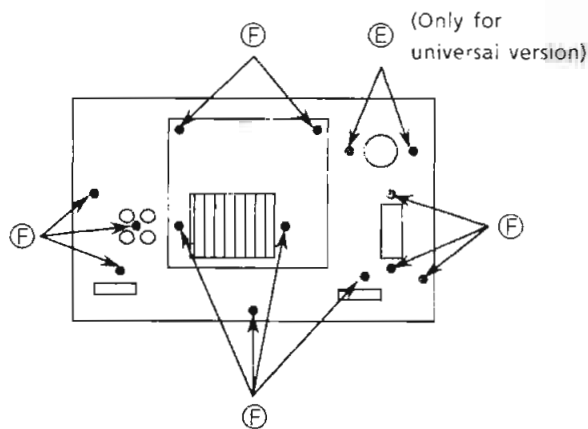

Figure 5 Rear view
2. Remove the screws ⑤ and ⑥ (Figure 5).